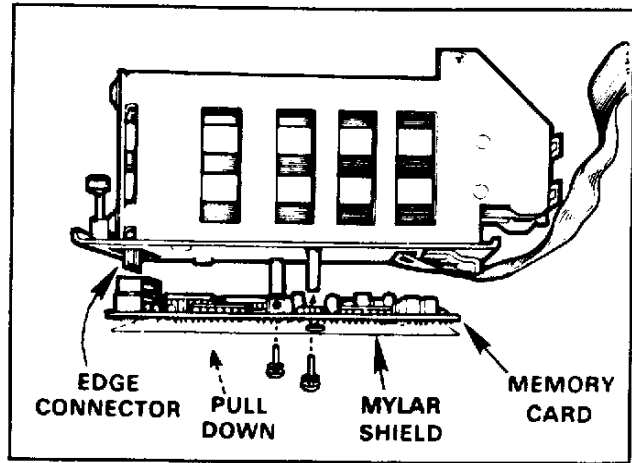

Figure 4-4. Memory Card Removal
13. Remove the two screws and the shield, and pull the memory card down to unplug it from the edge connector (as shown in figure 4-4).
1. Plug the memory card onto its edge connector, as shown in figure 4-4.